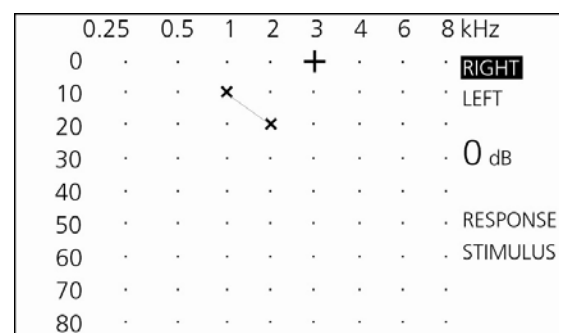

Figure 5: Audiogram view
After this threshold is established, it is displayed on the test screen. The level and frequency of the response is marked by an "O" for the right ear or "X" for the left ear in the audiogram view (Figure 5).
The tone is presented as cross-hairs in the audiogram view (Figure 5). The horizontal axis indicates the frequencies (250 Hz - 8 kHz) and the vertical axis indicates the levels at which the test tone is given.
The cross-hairs automatically go on to the next frequency. Change level with arrow keys as described above. Save the patient's response by pressing the **ENTER** button (13). The measurements are connected by a line in the audiogram view (Figure 5).